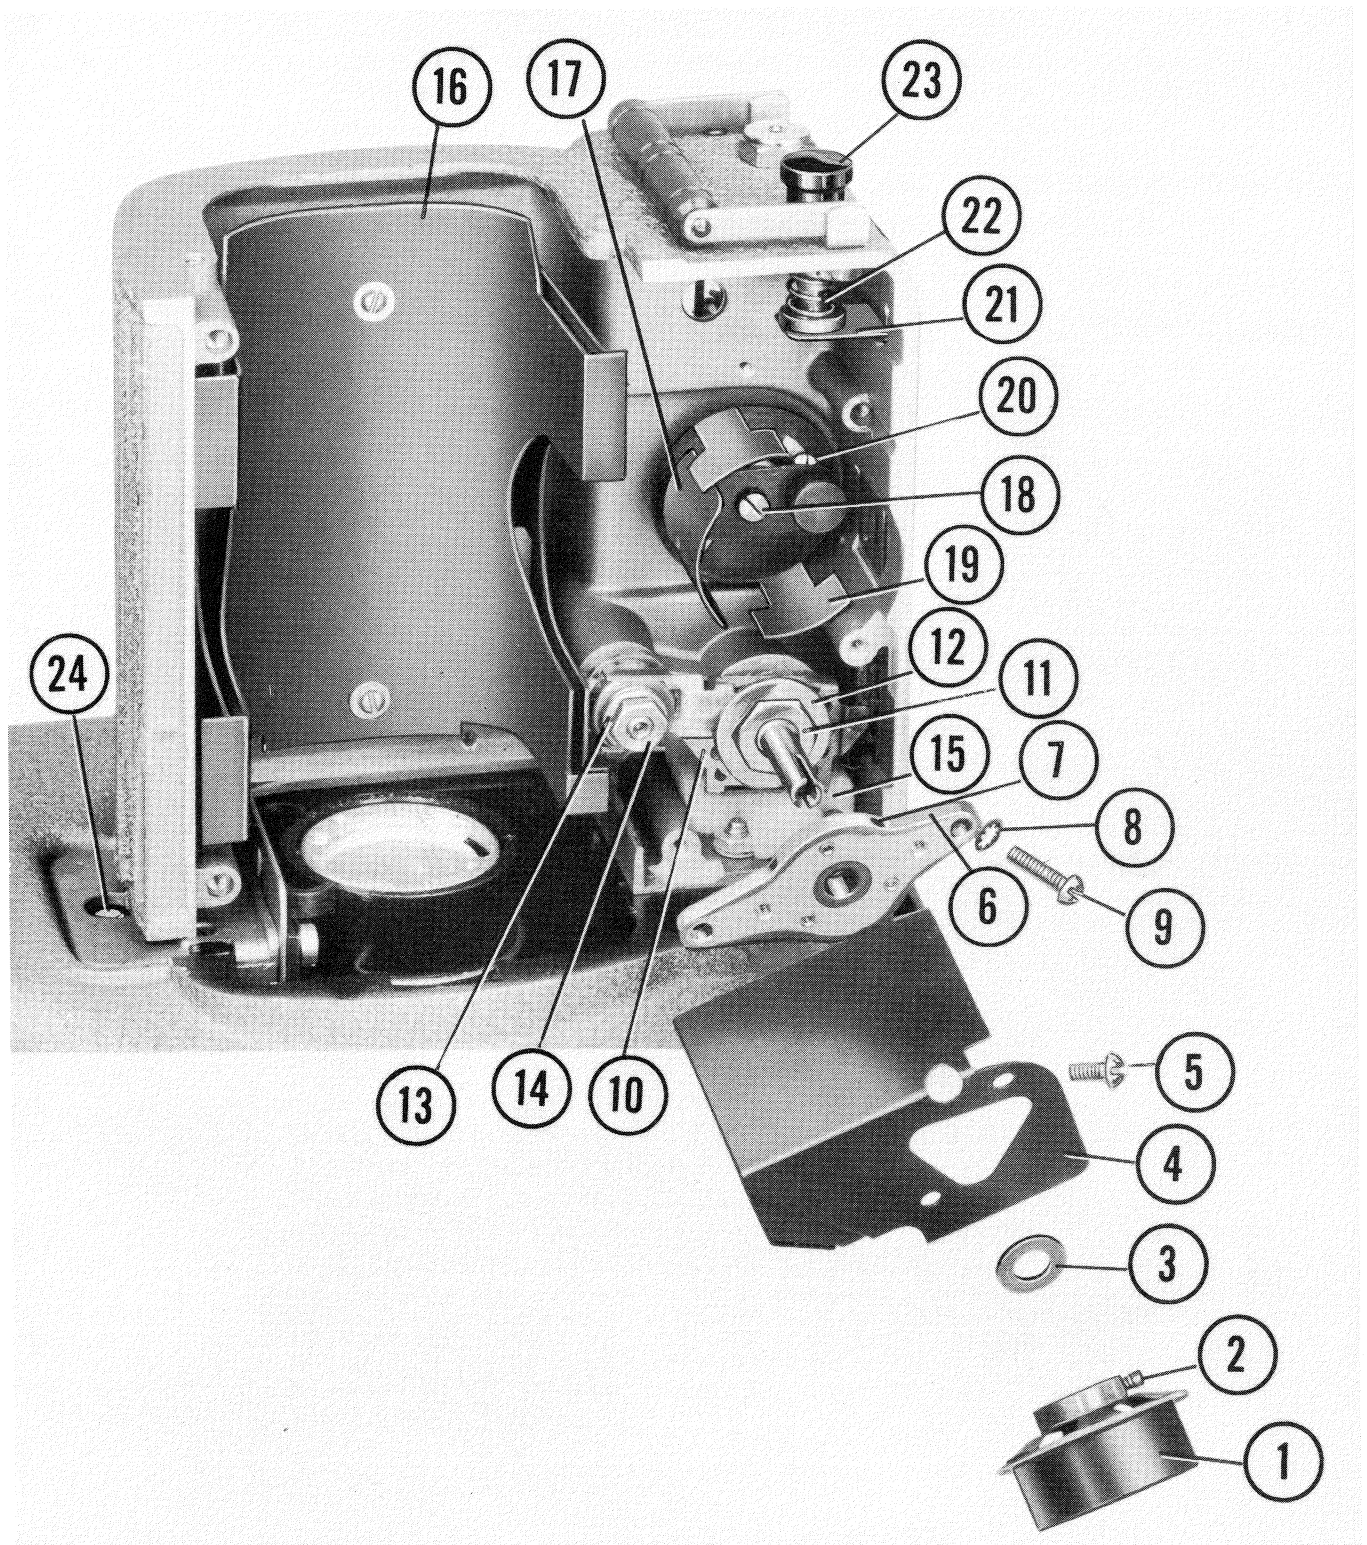

FIGURE 4—INTERMITTENT COMPARTMENT
- a. Intermittent Compartment (ALL) (See Fig. 4) - Remove the front cover from the projector. Run the drive belt over the front edge of the drive clutch (1) (the end of the belt may be hooked over the end of the pressure roller knob to keep it from coming off of the motor pulley). Loosen the setscrew (2) in the drive clutch and pull off the clutch assembly. Remove the spacing washer (3). Remove the two screws (5) which hold the shuttle shield (4) in place and remove the shield. Take out the two screws (9) and lockwashers (8) (P-30 ONLY) and remove the vertical camshaft bearing assembly (6). Pull out the shuttle oil pad (15).